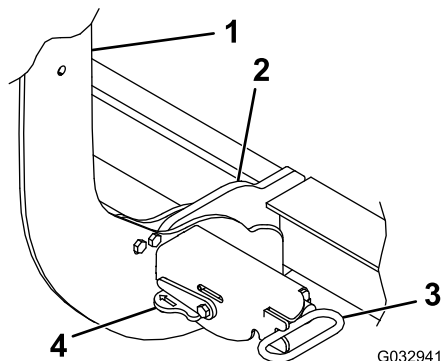

Figure 31
4. Turn the levers on the spring pins to the UNLOCK position (Figure 31).